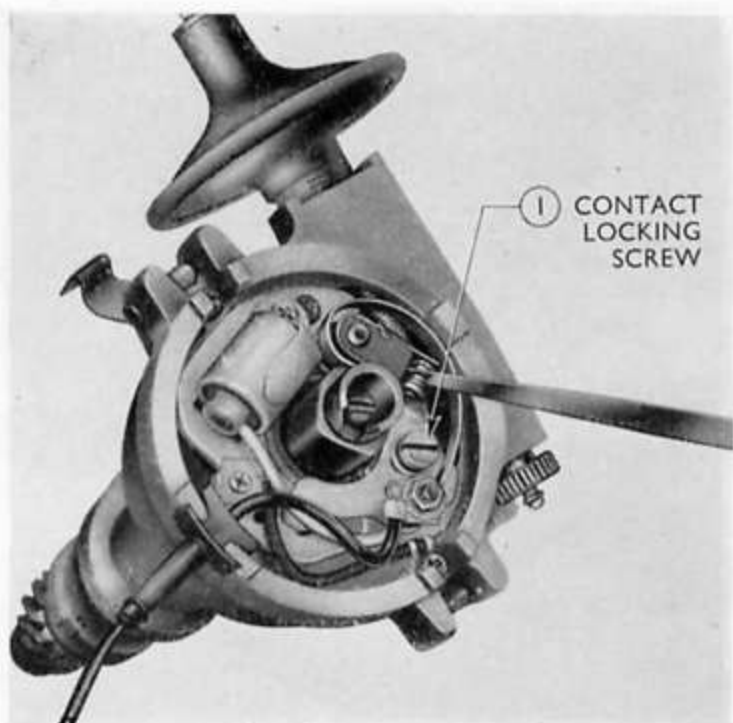

Fig. 21
3. Slacken the one locking screw and by means of the slot in the end of the adjustable contact bracket, adjust the points gap to 0.356 to 0.406 mm. (0.014 to 0.016 in.) (see Fig. 21). If necessary, align the breaker points to make full face contact by bending the adjustable contact bracket. Do not bend the breaker arm.